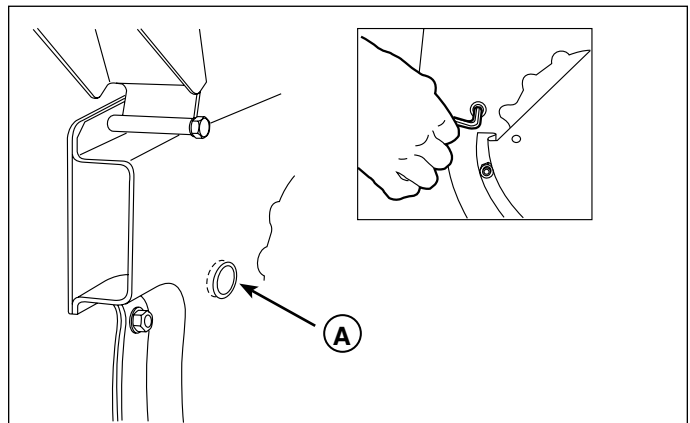

Figure 16. Access Hole
6. Rotate the rotor assembly so that the socket head capscrews that secure one of the chipping knives can be accessed through the rotor cover and access hole (Figure 16).